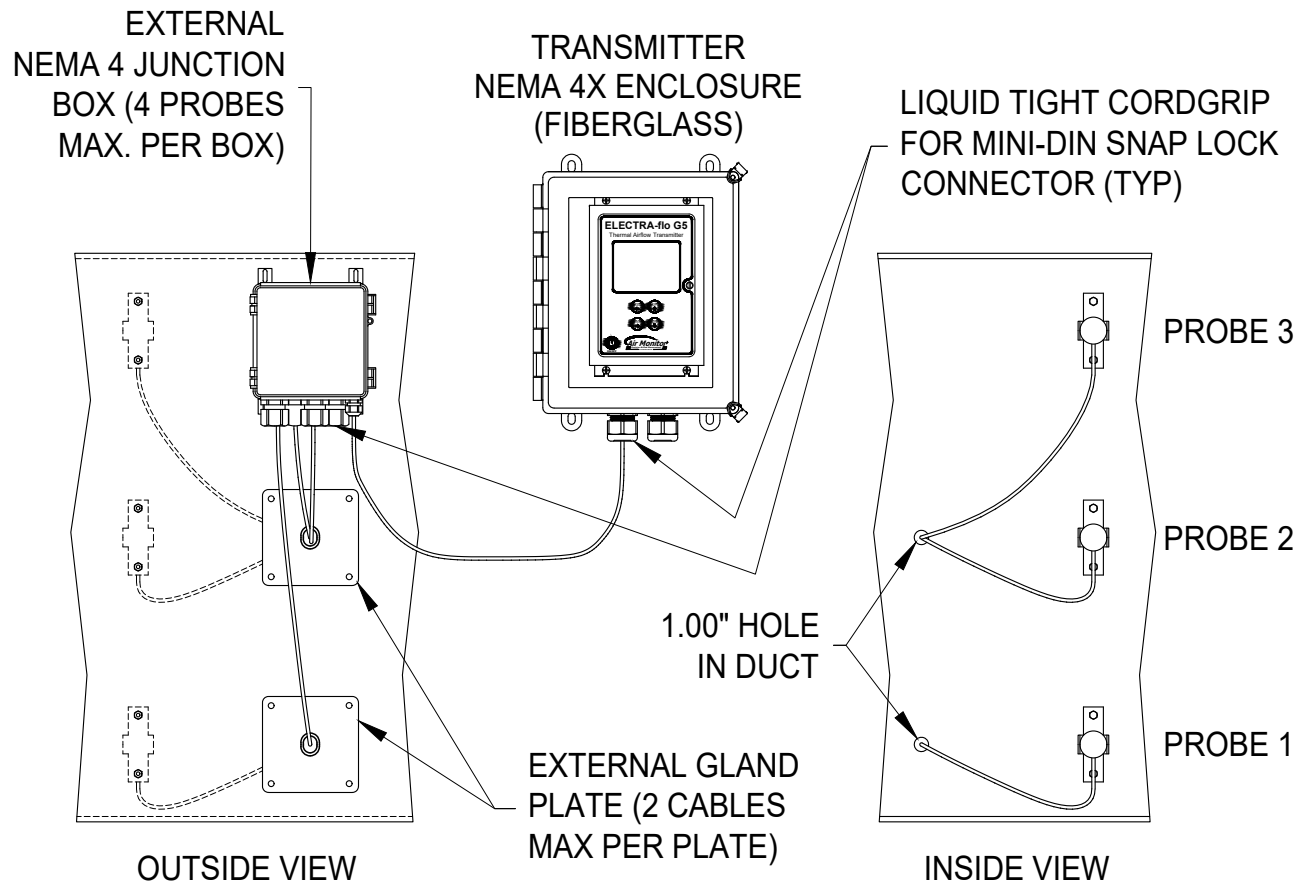

Figure 14
- Multiple **internally** mounted probes are connected in parallel to the externally mounted junction box, by routing the probe cables through an externally mounted gland plate. The junction box connects to the transmitter. See Figure 14.